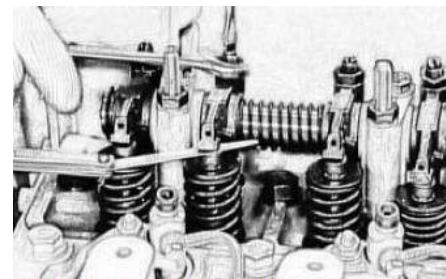

Fig 5-23 Check Valve Clearances
2.12 After above adjustment, turn crankshaft one revolution' adjust other valves clearances. After finishing all valves adjustment' recheck valve clearances as same sequence to keep correct valve clearances (see Fig 5-23).
3.2.4 Keep the connecting tube of inlet intake and exhaust pipe well without broken. Tighten up with clip see Fig 5-23).